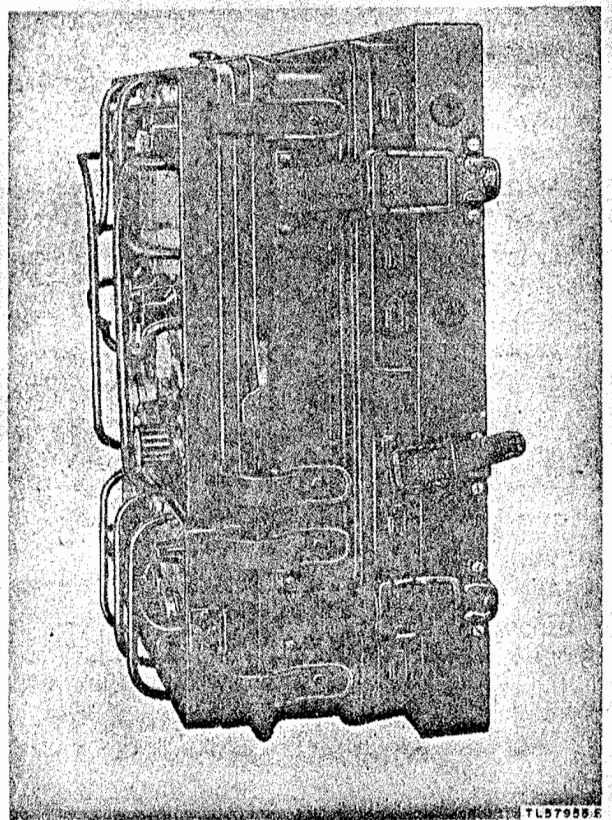

Figure 48. Receiver-Transmitter RT-77/GRC-9, mounted for vehicular use.
d. For normal operation, place the cover between the receiver-transmitter and Mounting MT-350/GRC-9 (fig. 48). Secure the unit with the straps (fig. 48).